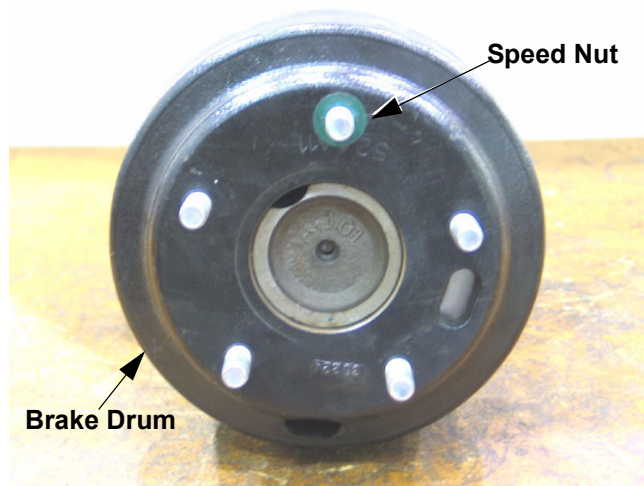

Figure 14.2
14.2. Remove the brake drum. See Figure 14.2.